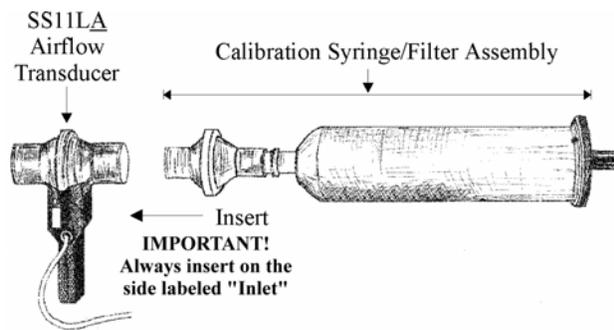

Fig. 12.4
6. **Insert** the Calibration Syringe/Filter Assembly into the airflow transducer (Fig. 12.4).
If using SS11LA transducer with removable, cleanable head, always insert syringe assembly on the transducer side labeled "Inlet" so that the transducer cable exits on the left, as shown in Fig. 12.4.